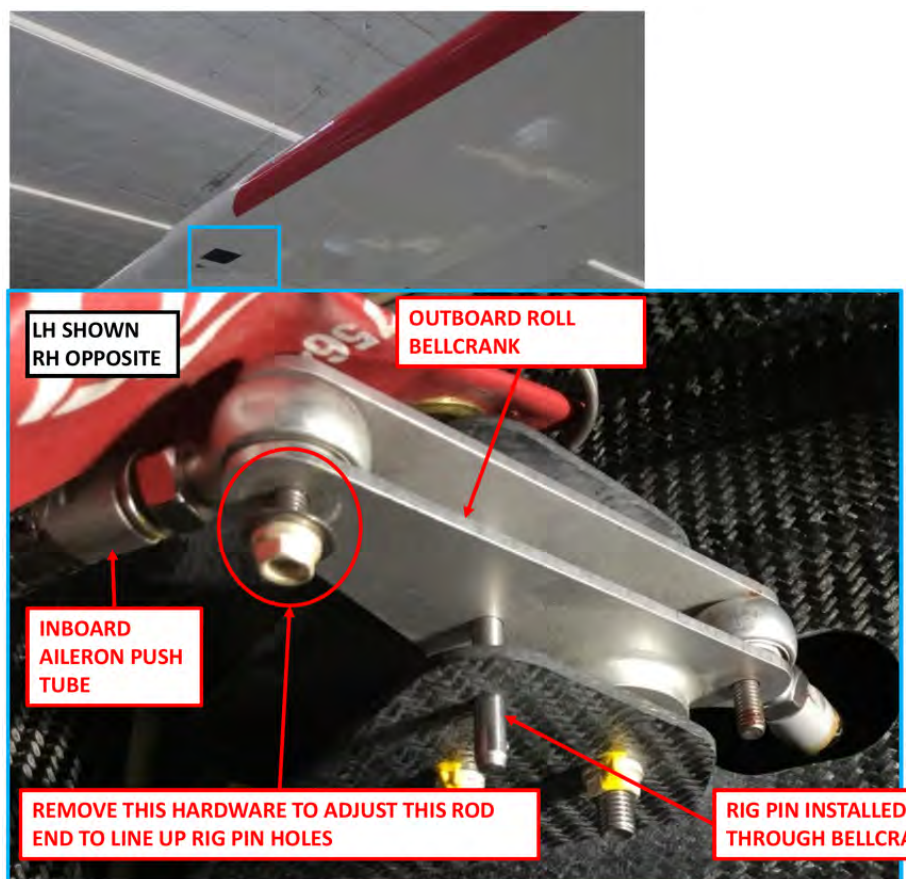

FIGURE 10-18
13. Install 2X .1875 in diameter rig pins through the outboard roll bellcranks. If the pin will not install, adjust length of inboard aileron push tube by adjusting rod end lengths as necessary to align the holes in the bracket and bellcrank. Adjust rod end lengths equally. Once adjusted, torque push tube jam nut to 60 in-lbs. Torque through bolt and locking nut to 20 in-lbs. See Figure 10-18.